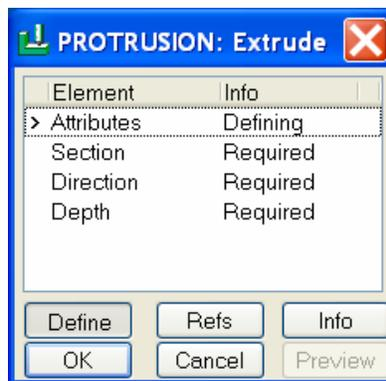

Figure 1.44
- From Pro/E pull down menu, select Sketch → Edge → Use and select all four outer edges of the workpiece (not the part). Click Close (Figure 1.42) and to complete sketch. Up to Surface (Figure 1.43) → Done and pick the top surface of the workpiece. Select OK (Figure 1.44) to complete the protrusion.